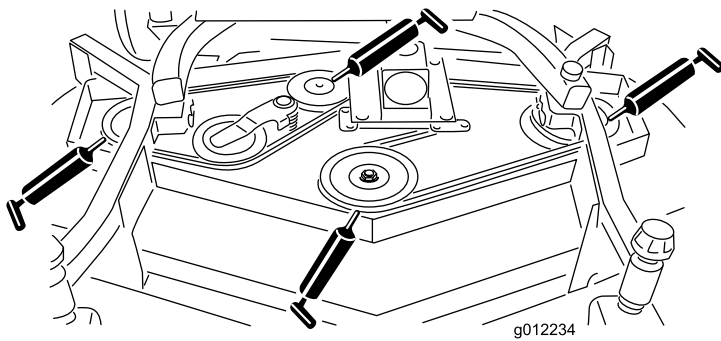

Figure 16
- Spindle shaft bearings (3) (located under the pulley) (Figure 16)
- Idler arm shaft bearings (Figure 16)